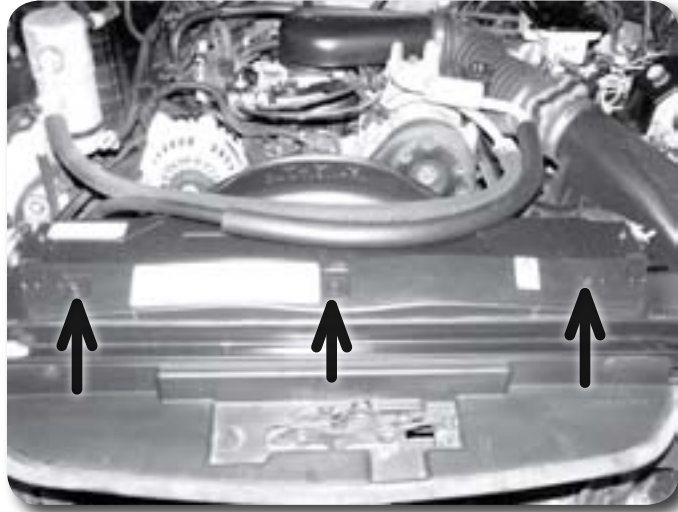

Figure 9
11. If equipped, remove the AC line from the plastic hose clip on the upper fan shroud **Figure 9**.
14. Remove the seven bolts mounting the upper fan shroud to the core support and lower fan shroud **Figure 9, 10**. Remove the upper fan shroud from the vehicle.